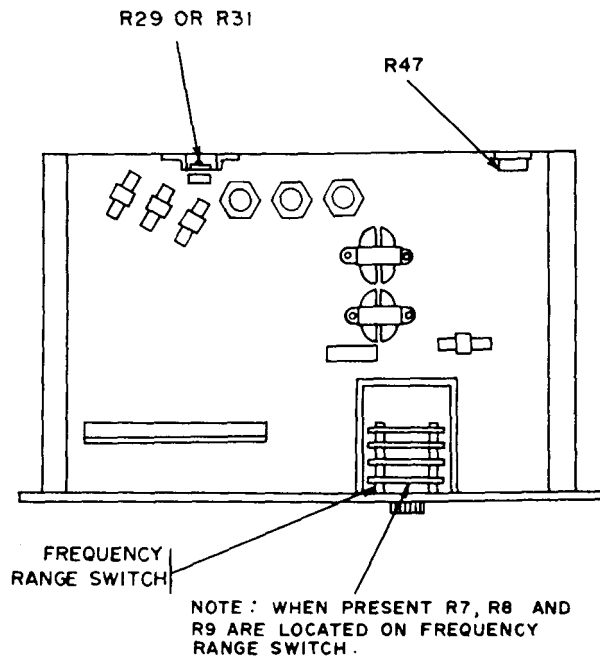
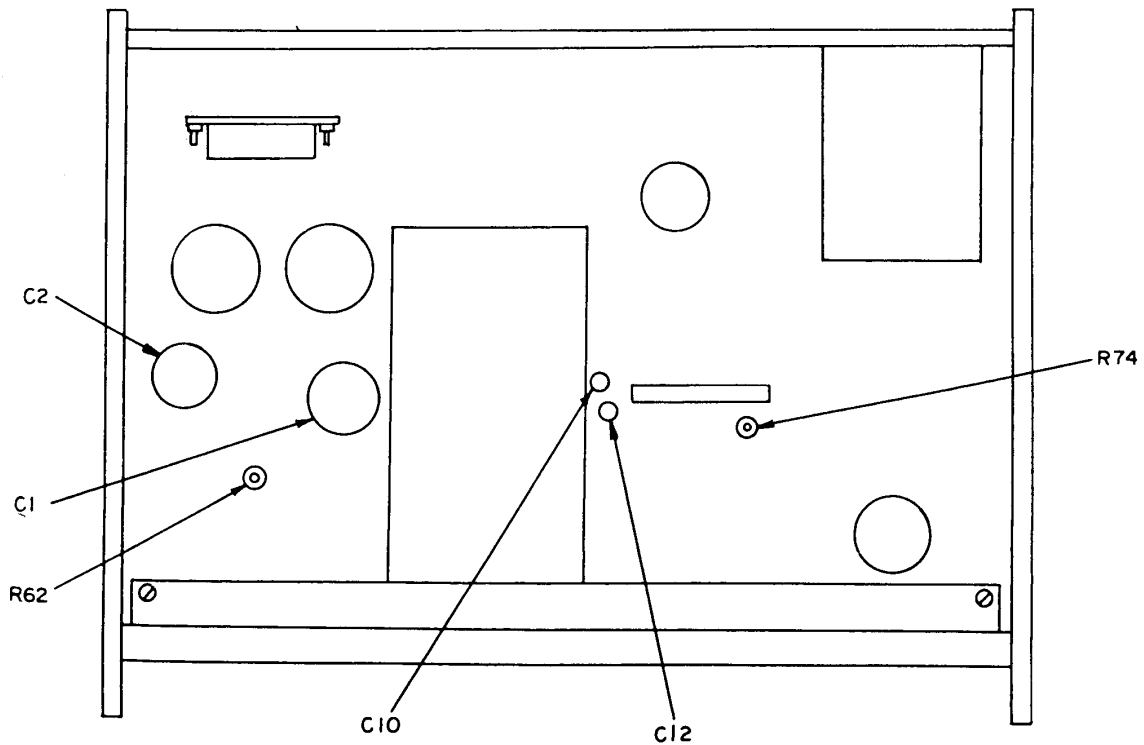

Figure 2. Test instrument - bottom view.
Figure 3. Test instrument - (TS-421C/U and model F370A).
- (6) Adjust R8 (fig. 2) for a 200 Hz indication on frequency counter (R).
- (7) Turn **FREQUENCY** dial to **200** and adjust either C1 or C2 (C10 and C12 on TS-421C/U and model F370A) as applicable for a 2000 Hz indication on frequency counter. If provided, adjust both C1 and C22 (C10 and C12 for TS-421C/U and model F370A) for best compromise between frequency counter indication of 2000 Hz and multimeter indication of 50 V (R).
- (8) Repeat a (1) through (7) above.
- (9) Set **FREQUENCY RANGE** switch to **X100** and turn **FREQUENCY** dial to **20**.
- (10) Adjust R7 (fig. 2) for a 2000 Hz indication on frequency counter (R).
- (11) Set **FREQUENCY RANGE** switch to **X1** and turn **FREQUENCY** dial to **100**.
- (12) Adjust R9 (fig. 2) for a 100 Hz indication on frequency counter (R).
(1) Adjust **AMPLITUDE (OUTPUT)** control for a 54.86 V indication on multimeter.
(2) Adjust R29 (fig. 2) (R31 on some models) (R74 on TS-421C/U and model F370A, fig. 3) for a +37-dB indication on **OUTPUT LEVEL** meter.